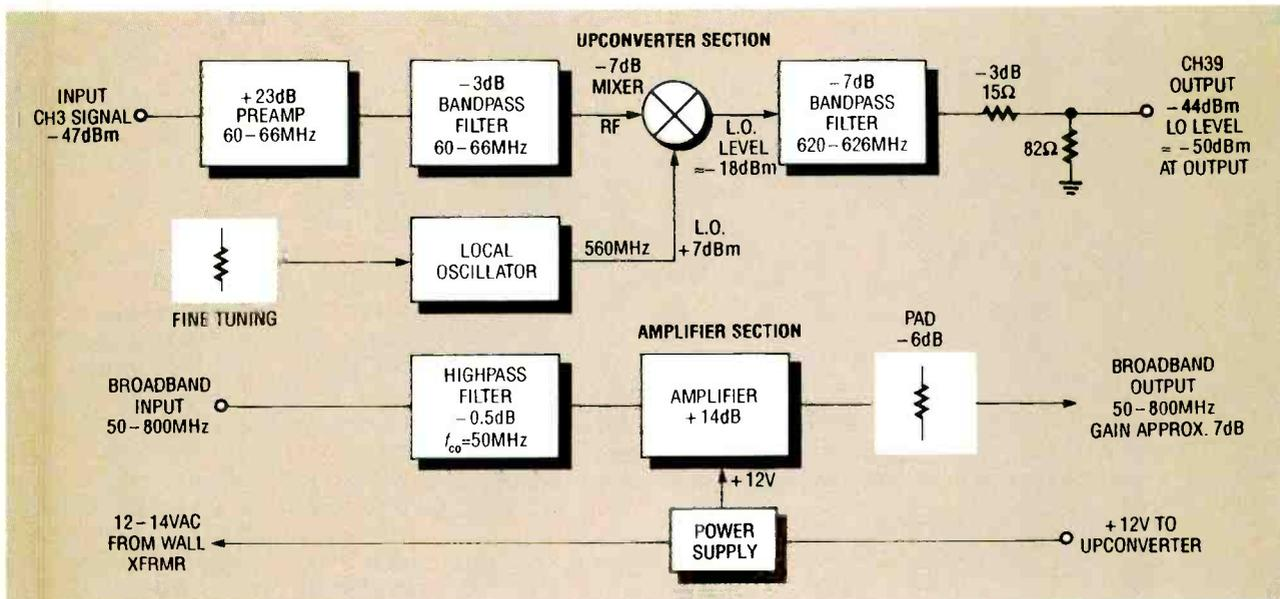

FIG. 2—BLOCK DIAGRAMS of an upconverter module and an amplifier/power supply module.
verter and amplifier modules are shown in Fig. 2. The upconverters consist of a preamplifier operating at 60–66 MHz, with 23-dB gain, and a two-pole bandpass filter between the amplifier and mixer. A double-balanced mixer combines the 60–66 MHz (Channel 3) TV signal with a local oscillator (LO). The LO is set to operate at a frequency 60 MHz below the low end of the desired output signal. For example, to obtain an output on Channel 39 (620–626 MHz), the LO must be at 560 MHz.